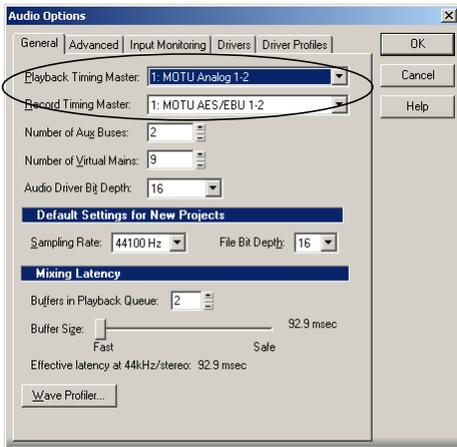

Figure 7-3: Make sure you have chosen a MOTU 896 input and output for the playback and recording timing master settings.
- 2 Choose a MOTU 896 input and output for recording and playback timing as shown below in Figure 7-3. It doesn't matter which input or output you choose.